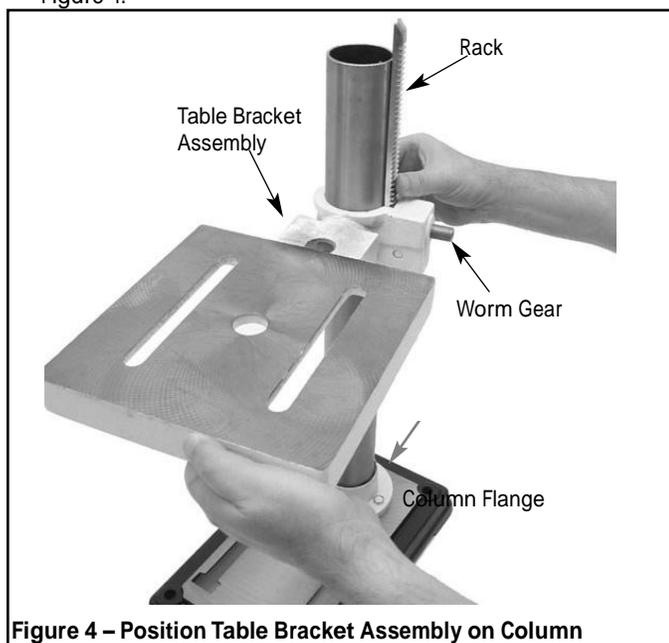

Figure 4 – Position Table Bracket Assembly on Column
- Slide table bracket assembly with rack over column. Place bottom end of rack inside beveled edge of column flange. See Figure 4.